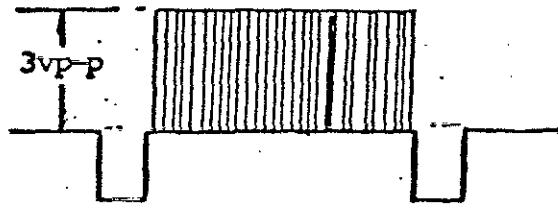

FIG 8
- 4) Adjust VR701 to obtain 3VP-P as shown in Fig 8.